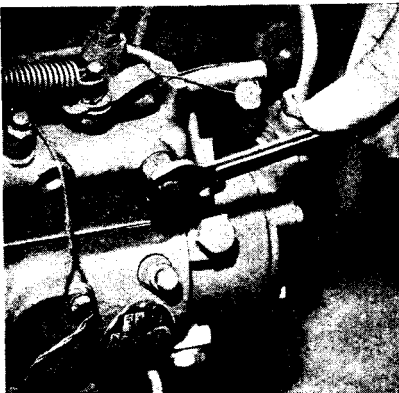

Fig. 8.
1. Slacken air vent valve on side of control gear housing (see fig. 8).